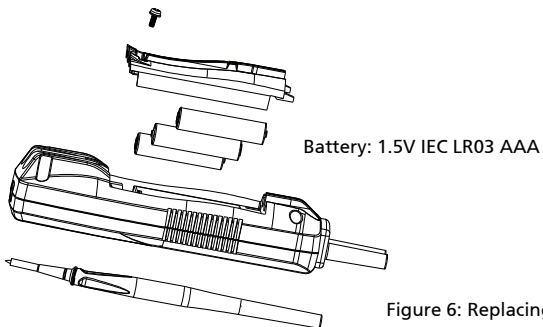

Figure 6: Replacing the batteries
The VPC-10A uses three 1.5V batteries. To replace the batteries, follow these steps and refer to Figure 6:
4. Replace the battery as shown in Figure 6. Observe the battery polarity shown in the battery compartment.